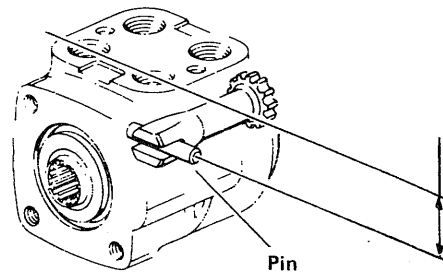
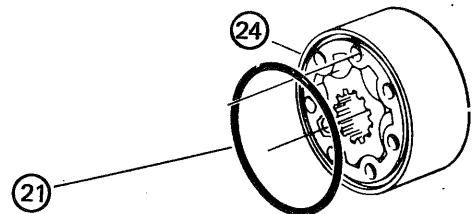

Fig. 147
Fig. 148
- (21) Rotate spool-sleeve assembly (17) (18) to let pin (20) be parallel with port surface (Fig. 147). Insert drive (23) until drive yoke catches pin (20). For exact positioning, mark a line using a felt pen (Fig. 148).
- (22) Install O-ring (21) in rotor set (24) (Fig. 148).